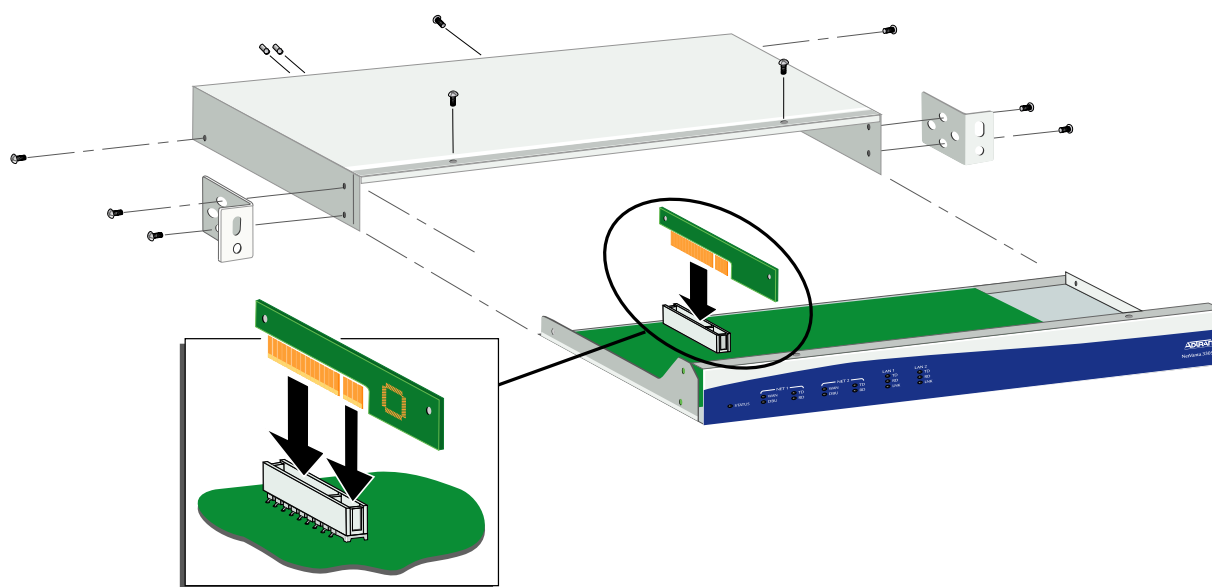

Figure 20. VPN Card Installation
2.	Remove the nine screws and, if necessary, two mounting brackets (see Figure 20).